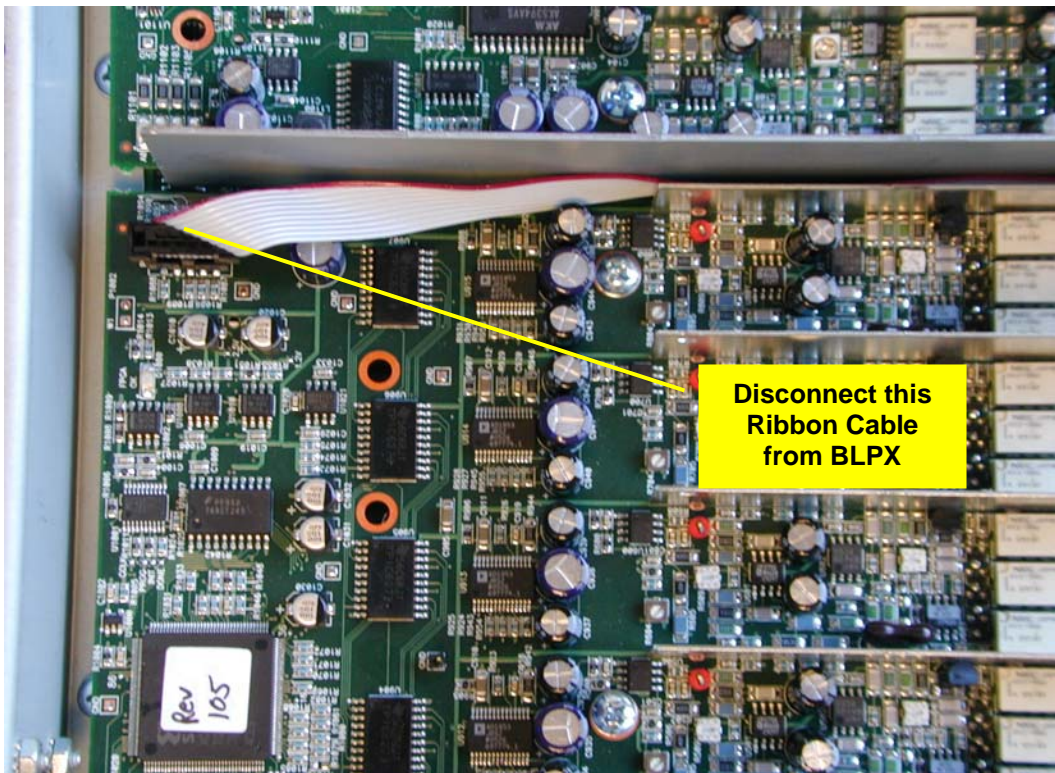

Figure 2 BLPX module and Ribbon Cable Connector
14. All interconnect cables must be disconnected before removing the BPLX module. Start by disconnecting the Ribbon Cable Connector shown in Figure 2. The Ribbon Cable just needs to be moved aside to allow removal of the BPLX module.